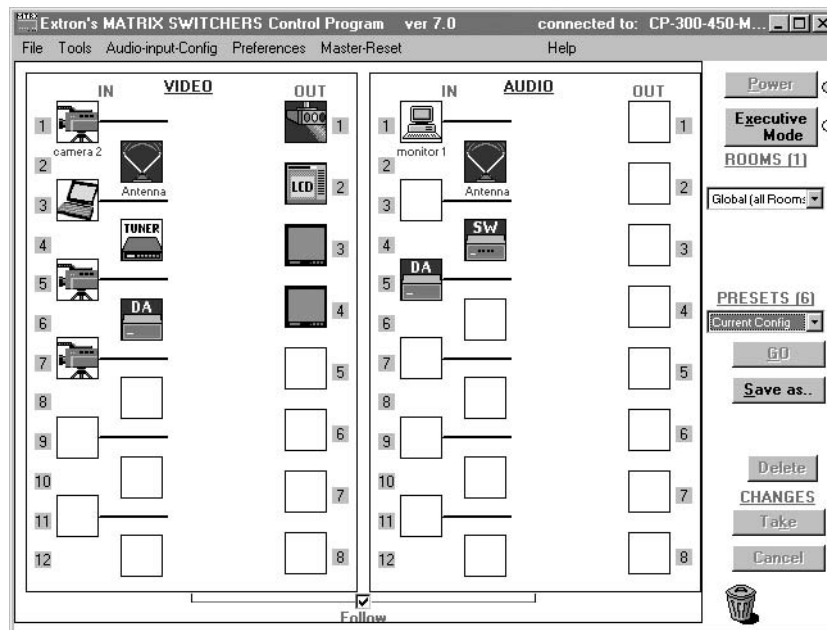
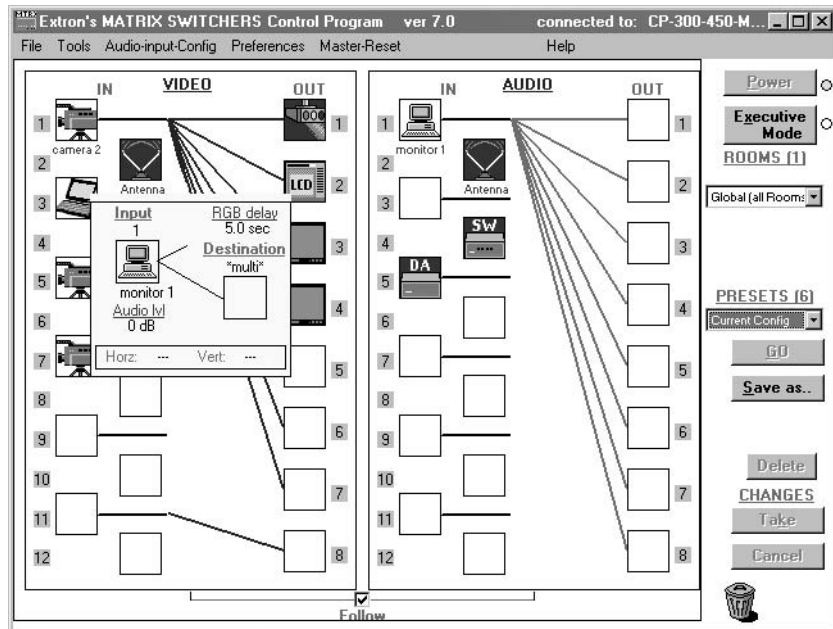

Figure 5-4 — Extron Matrix Switcher Control Program window (blank)
Figure 5-5 — Sample program window (complete)
- The Extron Matrix Switcher Control Program window (figure 5-4 and figure 5-5) appears. The window displays the current configuration of the attached matrix.
- For quick display of information on a specific input or output device, position the cursor over that device in the control program window. The program opens a window that details the connections to that device, the audio level, and the frequency of the video signal input from or output to that device. See the inset box in figure 5-5.
Icons in I/O boxes — Erases any numbers in the I/O boxes in the Control Program window (figure 5-5). You can place icons in the boxes. 1